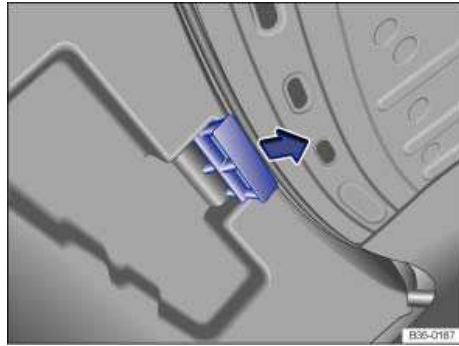

Fig. 174 Inside the luggage compartment: Unlocking luggage compartment lid.
- Locate the release handle in the luggage compartment lid ⇒ fig. 174.